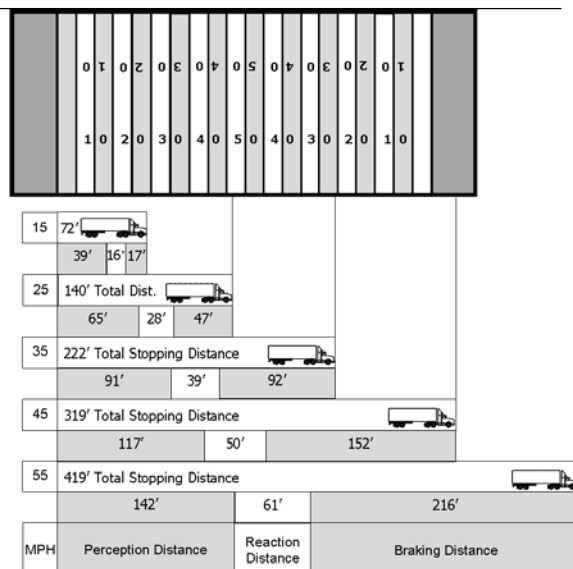

Figure 2.11
**Reaction Distance.** The distance you will continue to travel, in ideal conditions; before you physically hit the brakes, in response to a hazard seen ahead. The average driver has a reaction time of ¾ second to one (1) second. At 55 mph this accounts for 61 feet traveled.
**Total Stopping Distance.** The total minimum distance your vehicle has traveled, in ideal conditions; with everything considered, including perception distance, reaction distance and braking distance, until you can bring your vehicle to a complete stop. At 55 mph, your vehicle will travel a minimum of 419 feet. See Figure 2.11.